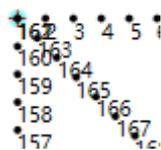

Fig. 5.8.4 Datum Point Setting Successfully
③ Click the "Datum Point Setting" button. After a pop-up window appears, you can select "Set as Datum Point", "Set as Datum Point 2", "Set as Alignment Point" and "Cancel Setting". Take "Set as Datum Point" as an example. After clicking OK, a red cross cursor will appear on the point. As shown in Fig. 5.8.4.